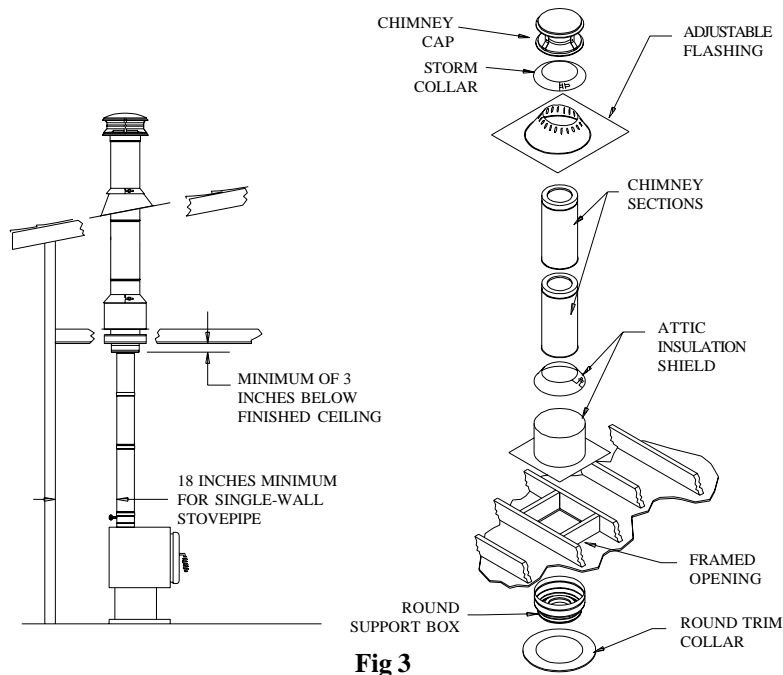

Fig 3
2. Frame Support Opening: Drop a plumb bob to the center of the appliance's flue outlet and mark this center point on the ceiling. Refer to Table 2 for specific framing and clearance dimensions. Mark appropriate cutting lines around the center point. Cut a square hole in the ceiling for the Support Box. Frame a level, square opening centered over the hole which you have cut. (Figures 3 and 4).